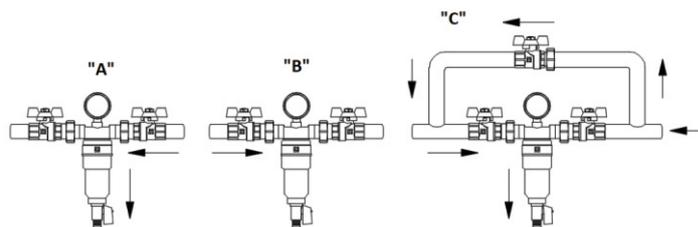

FIG. 1
- Shut-off valves must be installed before and after the filter to make it possible to remove the filter elements (see Fig. 1). For greater efficiency of filter washing (backwashing), it is preferable to have a bypass section with a tap (bypass) (see Fig. 1 "C").
"A" - Close the outlet valve. Open the drain tap and drain the sediment into the sewer together with a certain amount of network water. In this case, the particles remaining on the mesh are mainly not removed from the filter. Remove only the sludge settling on the bottom of the flask (Fig. 1)
"B" - Make sure that all water dispensers are closed. Close the inlet and outlet valves of the filter. Open the drain valve of the filter, this will drop the pressure in the flask, and the water from the flask will be completely removed. Open the outlet valve of the filter. In this case, the residual pressure in the pipelines after the filter will to some extent knock down the particles stuck to the mesh (Fig. 1).